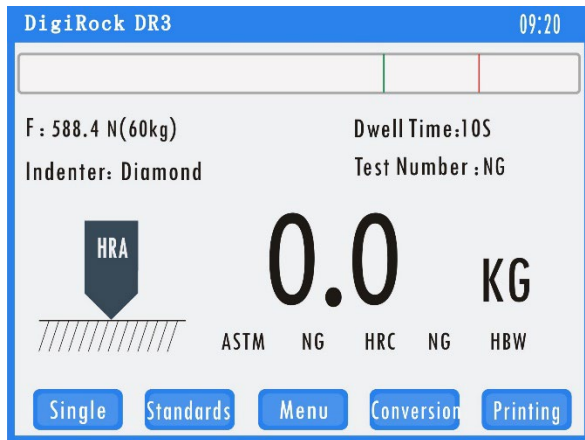

Fig 4-2 Standard test Mode (Single)
- **Single/Group:** Standard test mode (Single) and group test mode (batch mode) switch. When show single, enter standard test mode, test number show NG; click single, it will show average, enter batch mode, test number show 00. See below pictures. (Fig 4-2)
Shown as Fig 4-2, HRC, HBW below the test result represent the conversion value under the scale HV. When put scale button, the two scale change and show the relevant conversion value at the same time.